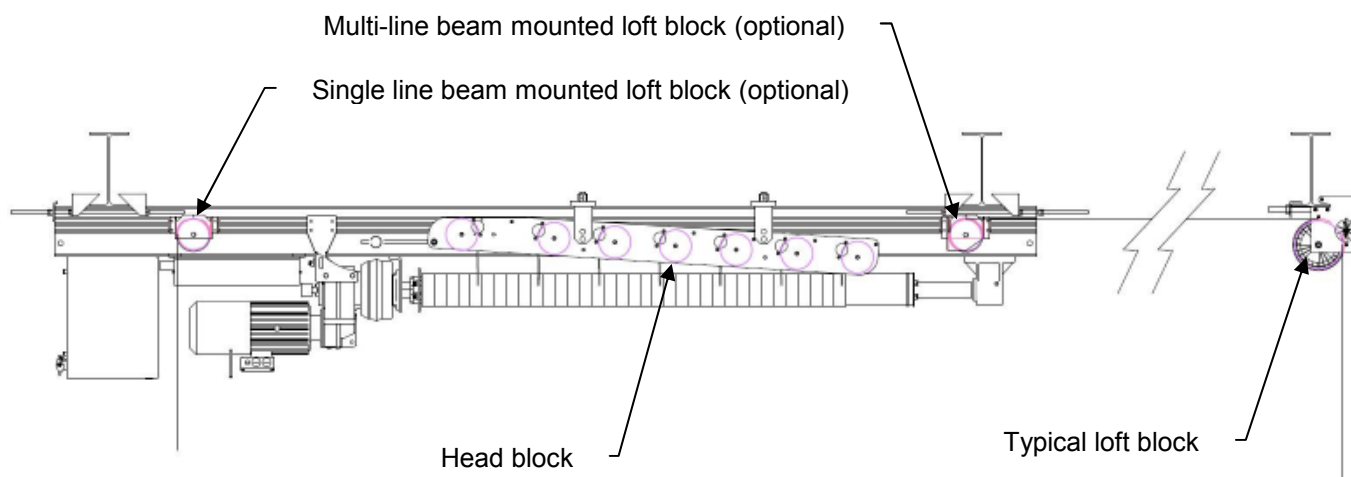

Figure 5: Typical arrangement of blocks
1. The hoists are typically provided with cables already reeved through the integral head blocks and beam mounted loft blocks (if provided). See Figure 5.